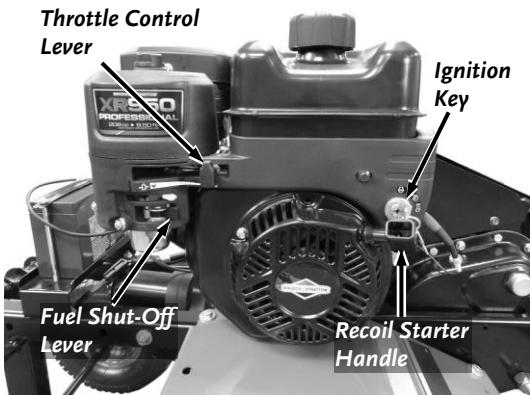

Figure 13
- When starting a cold Engine, push the Choke Control Lever all to the left so it is in the CHOKE  position and the push the Throttle Control Lever to the left so it is in the RUN  position (**Figure 13**).